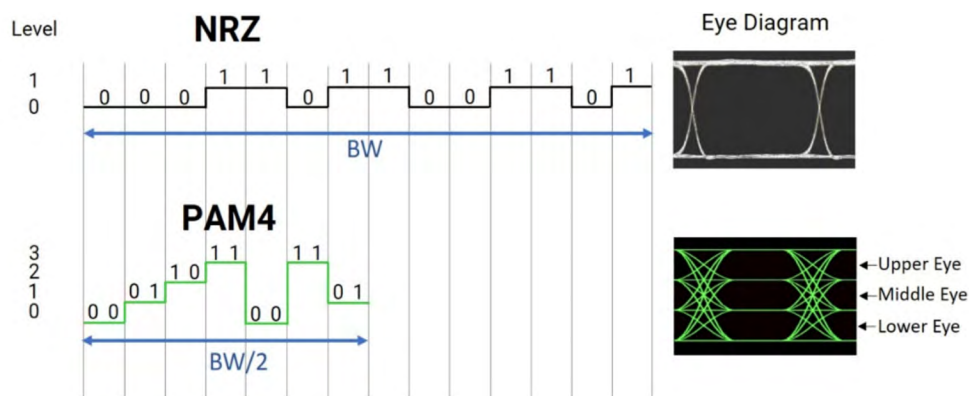

Figure 1. Waveforms and eye diagram representation for NRZ and PAM4 signals.
The PAM4 eye diagram presents three eye openings and four levels, as can be noticed in Figure 1. By increasing the number of levels of pulse-amplitude encoding, PAM4 doubles the number of bits per slot in serial data transmissions, which means that the density of data is doubled with respect to NRZ encoding, also the efficiency of Bandwidth (BW) is enhanced by two and the transmission cost is reduced.